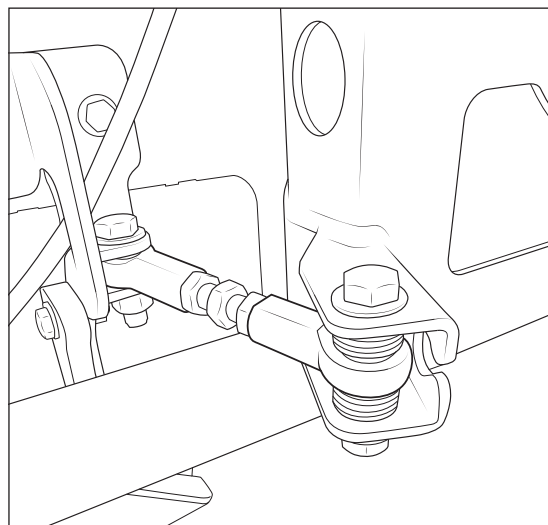

Figure 26
13. Install the Linkage to the Tire Carrier using the 1/2 x 2.5" bolt. This bolt **MUST** pass from the bottom upward with the nut on top. Use washers under the bolt head and nut. Use an even number of washers on both sides of the linkage (fig. 26). Tighten this nut and bolt to achieve a rattle free connection.